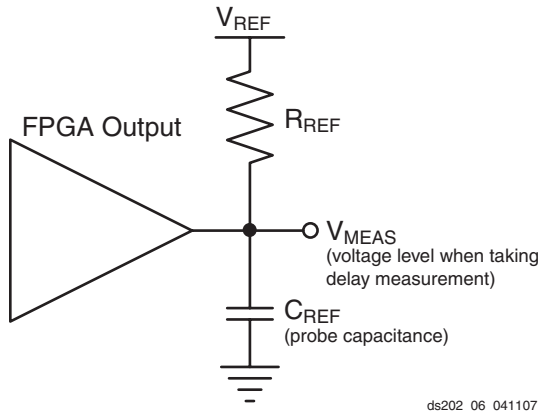

Figure 6: Generalized Test Setup
- This is an input voltage reference that bears no relation to the V_{REF} / V_{MEAS} parameters found in IBIS models and/or noted in Figure 6.
Output delays are measured using a Tektronix P6245 TDS500/600 probe (< 1 pF) across approximately 4" of FR4 microstrip trace. Standard termination was used for all testing. The propagation delay of the 4" trace is characterized separately and subtracted from the final measurement, and is therefore not included in the generalized test setup shown in **Figure 6**.